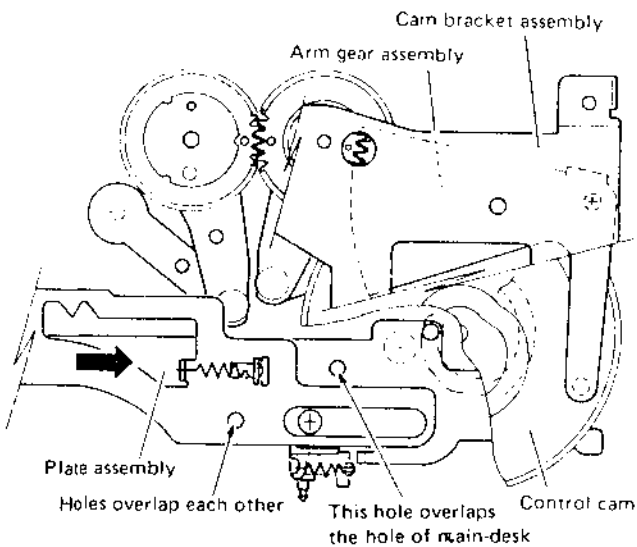

Fig. 1-3-4 Cam bracket assembly
1. Push and hold the plate assembly so that the hole of the plate assembly overlaps the hole of the main-deck, as shown in Fig. 1-3-4.
1. When the hole of the plate assembly overlaps the hole of main-deck, refer to Fig. 1-3-4, confirm that the V-cut of the slider section just overlaps the V-cut of the outer section of the mode select switch.